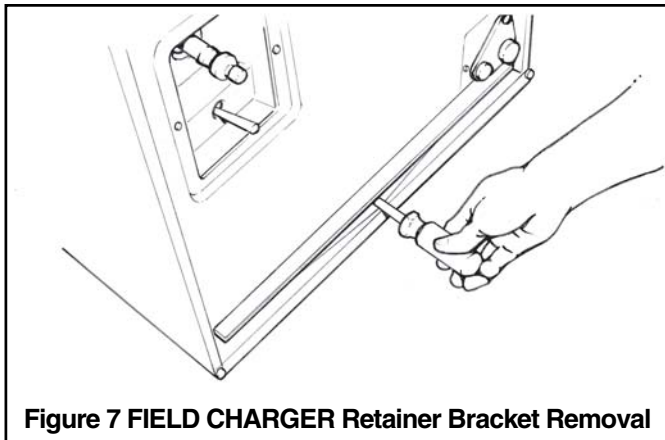

Figure 7 FIELD CHARGER Retainer Bracket Removal
- Use a 5/16" nutdriver to remove the screws holding the **FIELD CHARGER** retainer and take out both. Slightly lift the **FIELD CHARGER** and carefully remove. Set aside in a safe place until the unit is set in place and ready to start up. See Figures 7 and 8.
- b. Use a 5/16" nutdriver to remove the screw in the **FIELD CHARGER** retainer and take out both. Slightly lift the **FIELD CHARGER** and carefully remove. Set aside in a safe place until the unit is set in place and ready to start up. See Figures 7 and 8.
- b. Use a 5/16" nutdriver to remove the screws in the FIELD CHARGER retainer and take out both. Slightly lift the FIELD CHARGER and carefully remove. Set aside in a safe place until the unit is set in place and ready to start up. See Figures 7 and 8.
- b. Use a 5/16" nutdriver to remove the screws holding the FIELD CHARGER retainer and take out both. Slightly lift the FIELD CHARGER and carefully remove. Set aside in a safe place until the unit is set in place and ready to start up. See Figures 7 and 8.